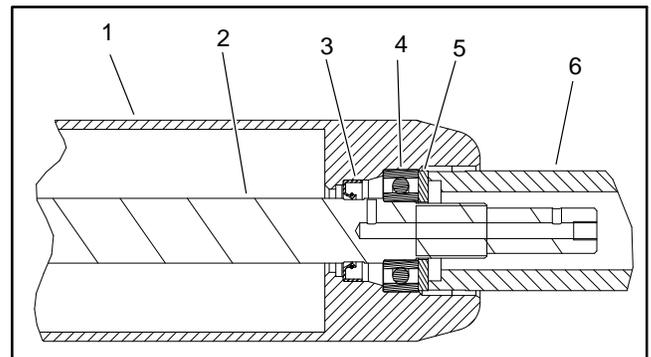

Figure 16
B. Use washer and bearing/outer seal tool (see Special Tools in this chapter) with a soft face hammer to fully seat bearing (Fig. 16). After bearing installation, make sure that shaft freely rotates and that no binding is detected. If necessary, lightly tap bearing and/or shaft ends to align shaft and bearings. Remove washer from roller.